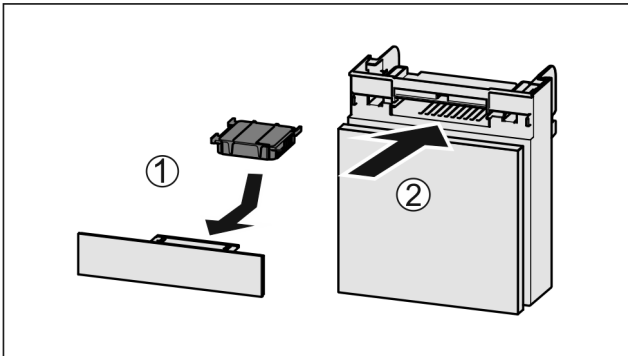

Fig. 115
- ▶ Insert the carbon filter as shown in the diagram Fig. 115 (1).
- ▶ Push the compartment in Fig. 115 (2).